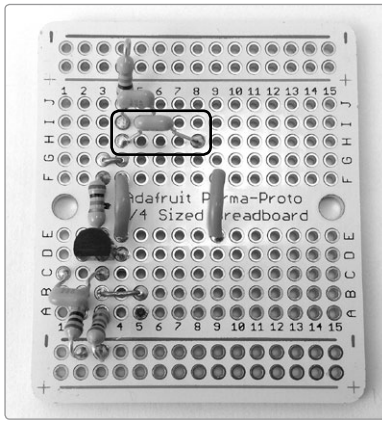

FIGURE 14-14: *Placing the final 0.1 μ F cap, which links the filter and output*
Step 12 Run the remaining 0.1 μF capacitor from 4H to 8H, as shown in Figure 14-14. Then solder it. This cap will serve as the link between the preamp output and the twin-T filter output. The filter input connects directly to the preamp input.